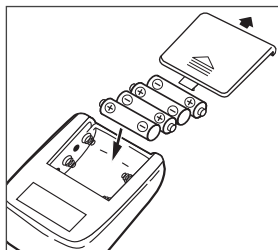

Fig. 1
1. Open the cover of the battery compartment and install 4 "AA" size batteries according to polarity marked inside the compartment. Do not use much force to remove the cover of the battery compartment (Fig. 1).